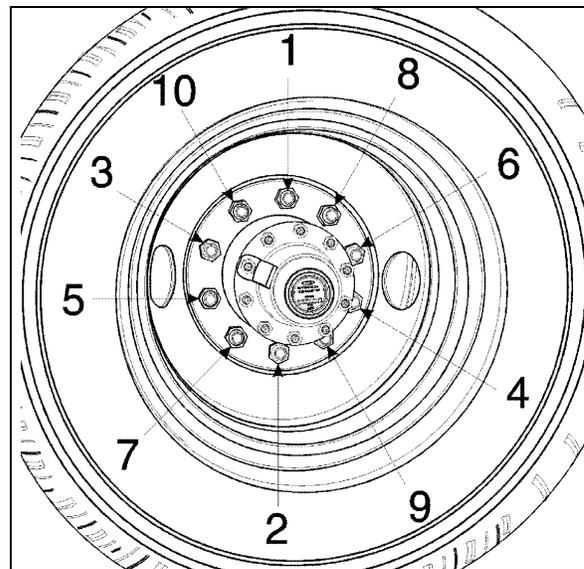
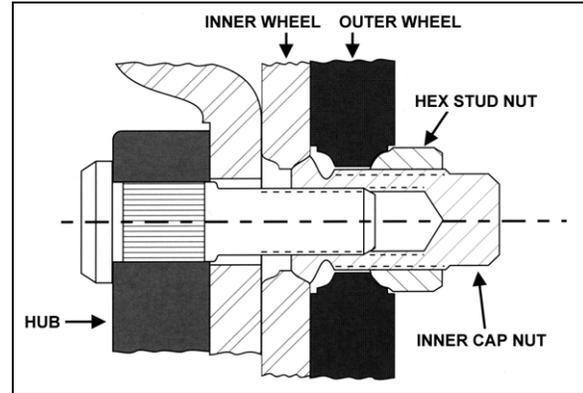

FIGURE 2: TIGHTENING SEQUENCE
FIGURE 4: STUD-MOUNTED WHEELS
| FIGURE 2: TIGHTENING SEQUENCE | 13-3 |
| FIGURE 4: STUD-MOUNTED WHEELS | 13-6 |
It is also important that wheel stud nuts be tightened alternately on opposite sides of the wheel. Refer to Figure 2 for the suggested tightening sequence.
Tighten stud nuts progressively as shown in figure 2. The final tightening should be done with a torque wrench. Tighten stud nuts to 450 - 500 ft-lbf (610 - 680 Nm) for aluminum as well as steel wheels.
2. Screw in the hex stud nuts (refer to Figure 2 for sequence) so that wheel will position itself concentrically with hub. This is important, otherwise wheel may be eccentric with hub and will not run straight. In this initial step, slightly tighten the nuts to correctly position the wheel;
3. Tighten stud nuts progressively as shown in Figure 2. The final tightening should be done with a torque wrench. Tighten stud nuts to 450 - 500 ft-lbf (610 - 680 Nm) for aluminum as well as steel wheel.
2. Screw in the inner cap nuts (Fig. 4), so that wheel will position itself concentrically with hub. Refer to Figure 2 for sequence;
With inner wheel installed, tighten the hex stud nuts (Fig. 4) using the single wheel installation procedure described previously.
1. Loosen a hex stud nut three turns (Fig. 4);
Repeat for each of the 10 "hex stud nut - inner cap nut assemblies" according to the tightening sequence in figure 2.
Using a calibrated torque wrench, tighten wheel nuts to 450-500 ft-lbf (610 - 680 Nm) of torque. Do not use power tools or long bars for tightening. Tighten wheel nuts alternately as shown in figure 2.